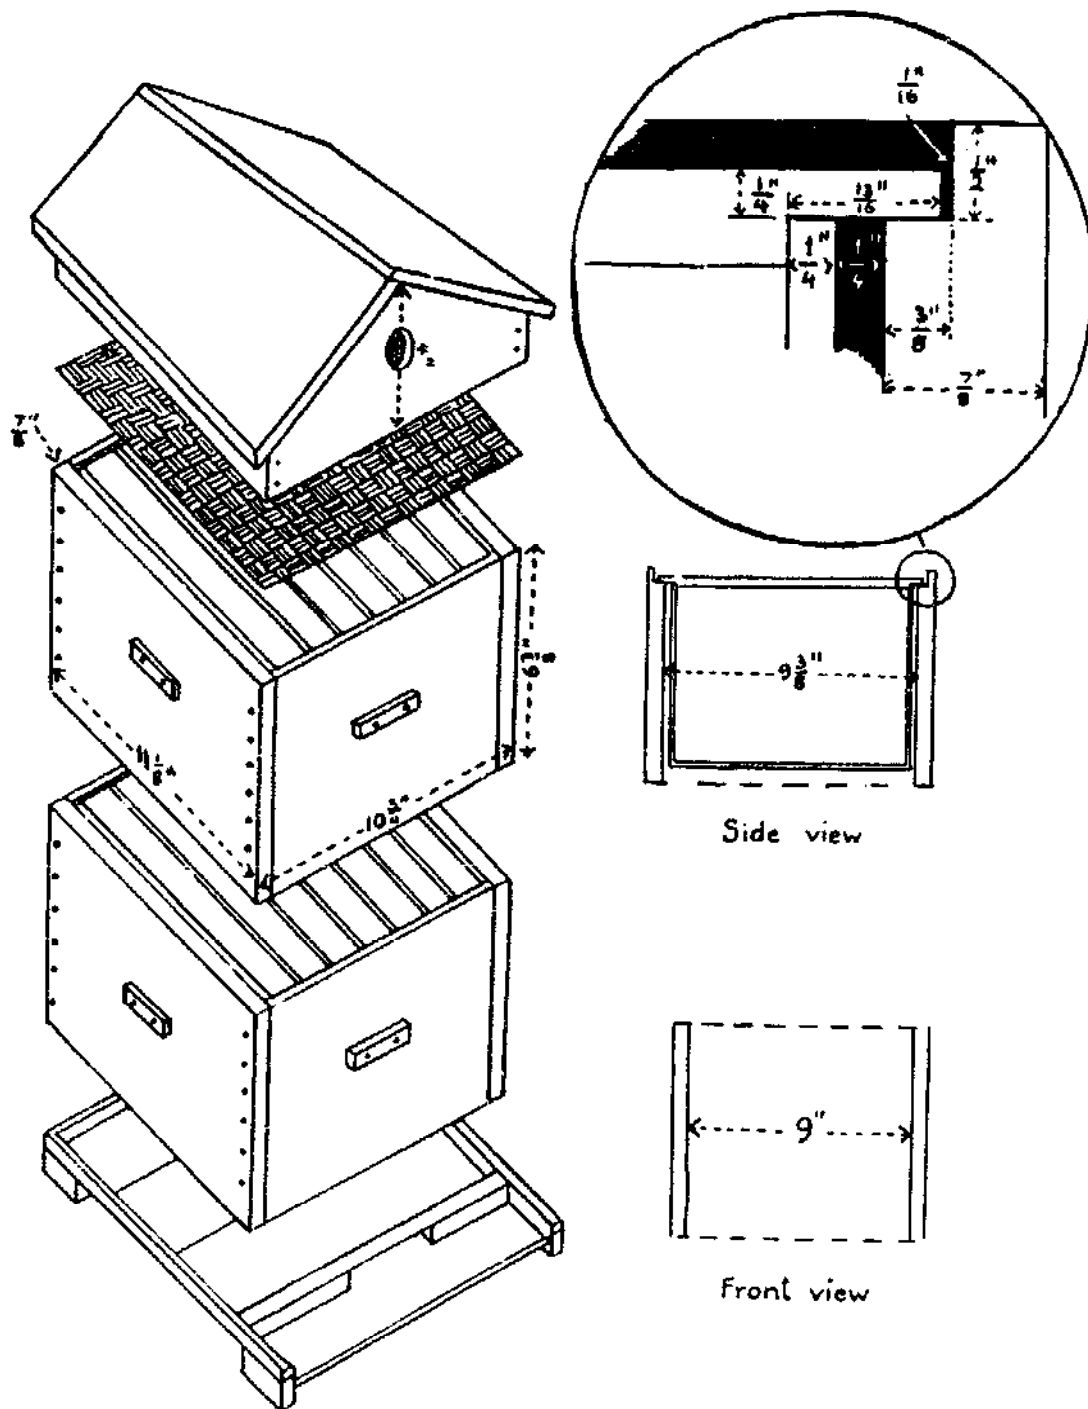

Figure 9. Newton hive
Of special importance is the space left between the frames, floor (bottom board), wells, and cover inside the hive. For most beehives, this "bee space" is 0.96cm (1/4") (see Figure 9, page 18, "side view"). If the space is less, the bees will not be able to pass through, and they will seal it up with propolis. If the space is wider than 0.96cm (1/4"), the bees will build honeycombs in it. Neither of these conditions is good for the beekeeper.
Its length on the outside is 50.80cm (20") and on the inside 46.99cm (18-1/2"); its width on the outside is 41.28cm (16-3/4") and on the inside 37.47cm (14-3/4"); and its height is 24.46cm (9-5/8"). A rabbet (shelf) 1.27cm (1/2") deep and 0.97cm (3/8") wide is cut along the entire inside top edge of both width boards. The "side view" of Figure 9 (see page 18) shows how the wooden frames rest on this shelf.
A sloping-top cover is shown on the Newton beehive (see Figure 9, page 18). This type of cover can be used with either the Langstroth or Newton hives. Many beekeepers prefer a sloping cover, which sheds rainwater quickly. It is usually made to fit loosely over the hive and is provided with a 2.54cm (1") diameter screened ventilation hole on the front and back.
Figure 9 shows the dimensions for the parts to the Newton hive, as follows:
6. Outside cover. This protects the frames and supers underneath. Many beekeepers prefer a sloping cover, as shown in Figure 9, page 18, because it sheds rainwater quickly. It usually is made to fit loosely over the hive and is provided with a 1" screened ventilation hole on the front and back.